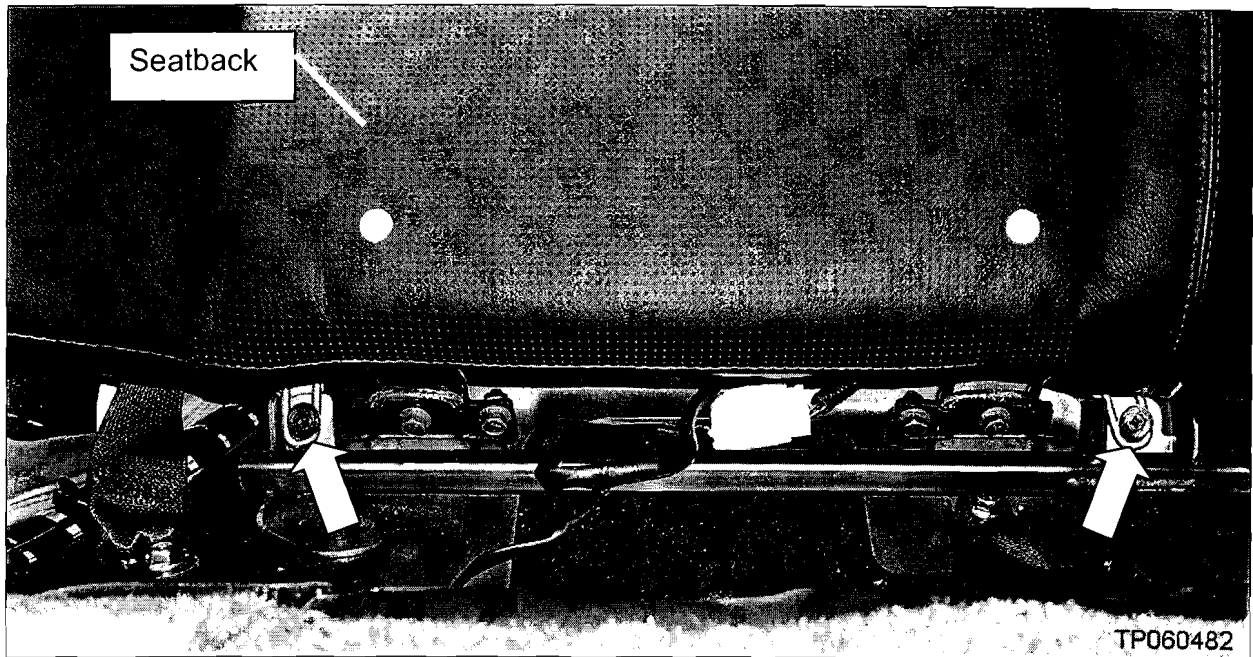

Figure 3
a. Remove the bolts shown in Figure 3 for each seat back (Left and Right).